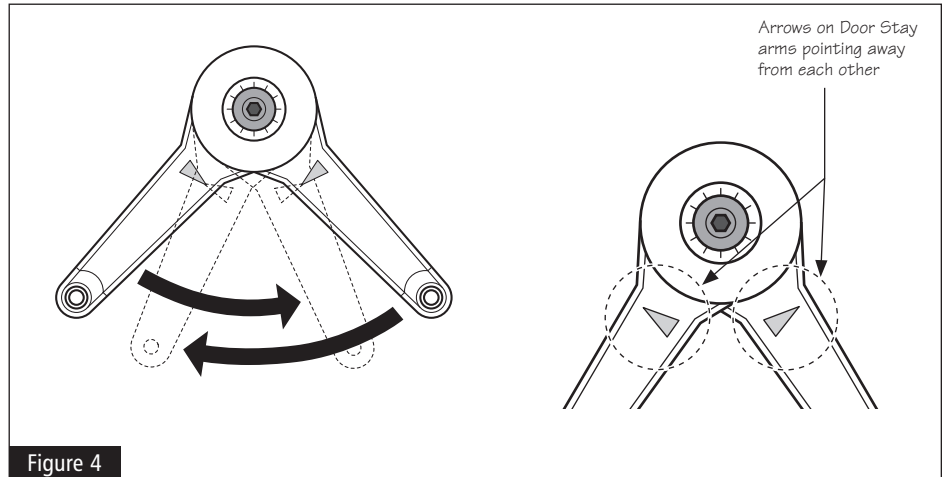

Figure 4
- 3** Swing Door Stay arms toward each other in a scissor action until they pass each other. When completed, the arrows on the arms should point away from each other. See Figure 4.